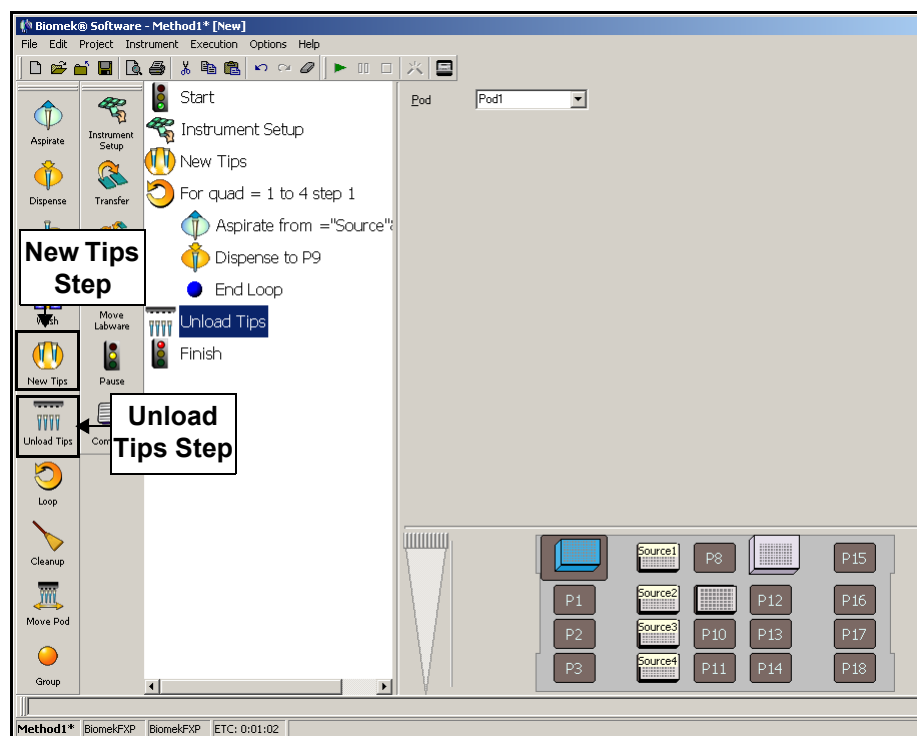

Figure 3-14. Loading and unloading tips outside the **Loop**
4. Insert an **Unload Tips** step after the **End Loop** icon in the **Method View**. Your method should now look like Figure 3-14.